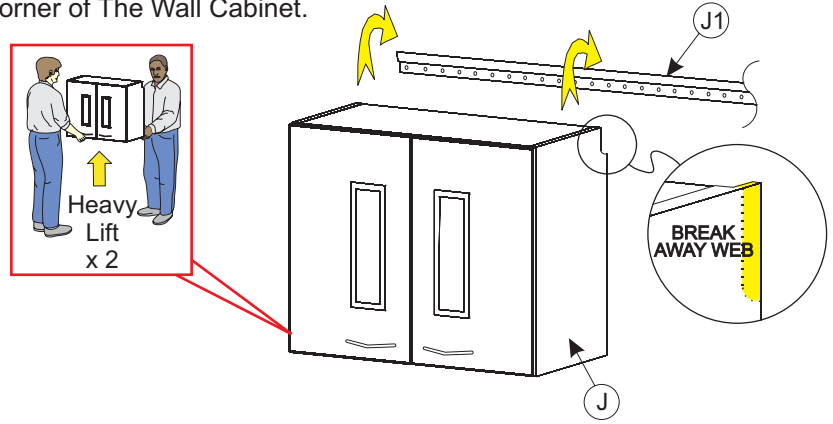

Figure 2A
At the upper corners of each wall cabinet, remove the break away web to enable a multiple wall cabinet installation. DO NOT remove the web for finished ends (see Figure 2A). With (2) people hang the Wall Cabinet (J) onto the Hang Rail (J1) (see Figure 2A) by placing cabinet against the wall above the Hang Rail (J1) then slide down the wall until the hanger bracket snags the Hang Rail (J1). To tighten the cabinet to the Hang Rail use a screwdriver to tighten (see Figure 2B). There is a 14mm front to back adjustment range. Tighten the screw on both Hanger Brackets per wall cabinet. Plug the interior lamp into a wall outlet **controlled by customer supplied light switch** through the access hole at the upper rear corner of The Wall Cabinet.